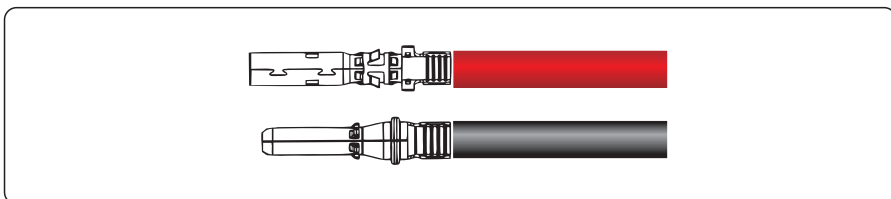

Figure 5.11 Crimping a metal connector
Step 2 Insert the exposed areas of the positive and negative power cables into the metal terminals of the positive and negative connectors respectively and crimp them using a crimping tool, as shown in Figure 5.11.